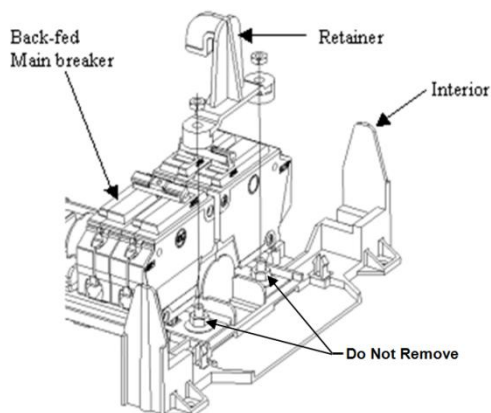

Figure 1: Main Breaker Retainer
4. Install the retainer, over existing nuts, and secure using the nuts provided in the kit (see Figure 1). Tighten to 35 lbs-in (4 N-m).